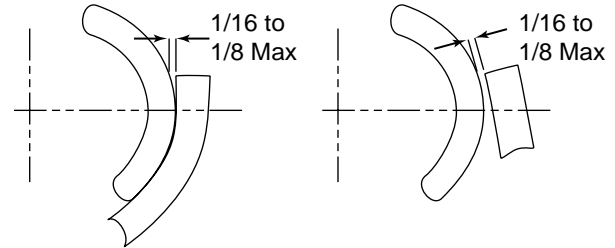

Figure 16. Root Weld Gap
3. Inspect axle to lower beam weld. Axle should be snug in contoured axle seat and welded according to guidelines shown in Figures 16, 17 and 18.
B) Insure the lower beam assembly fits the axle with a weld root gap of 1/16" to 1/8" maximum between the welding wings or uprights as illustrated. (See Figure 16.)